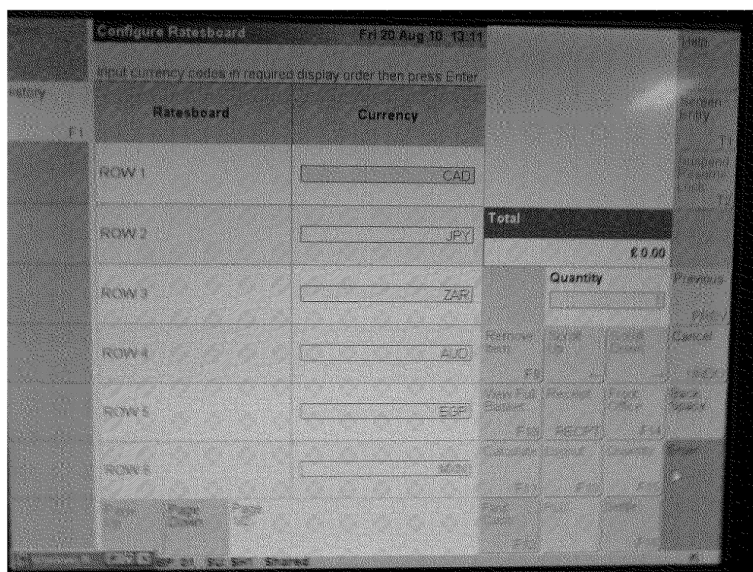

Figure 13
- 4) After making the appropriate selection, the currency selection screen will be displayed, see figure 13:
- 5) The display is not large enough to display all the rates simultaneously. This screen is divided into two and is accessed by "Page Up or Page Down icons. (See figures 13 and 14)